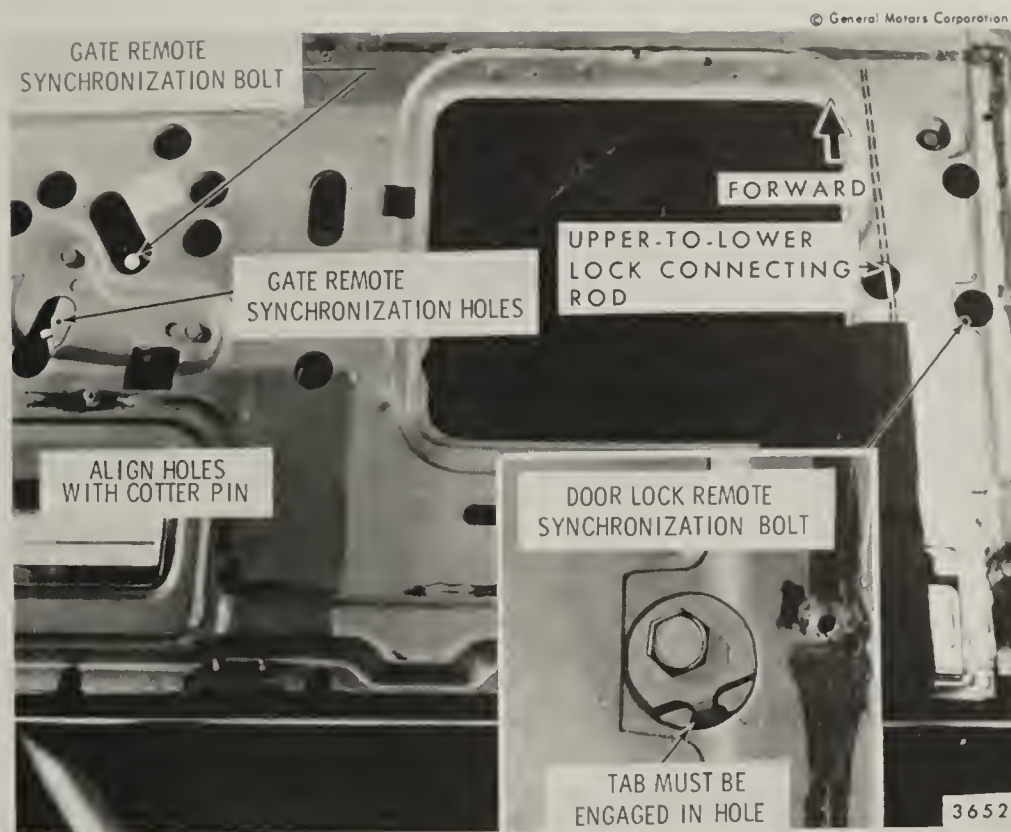

Fig. 21-15. Dual acting tail gate lock synchronization check points. (Fisher Body)
5. With all locks in locked position, visually check gate remote synchronization holes in gate remote control levers (center of gate as shown in Fig. 21-15). If holes line up, proceed with step 7. If the holes do not line up, loosen (turn to right approximately three turns) gate remote control synchronization bolt (this bolt has left hand threads). With synchronization bolt loose, check that there is no bind in remote levers. Align holes by inserting a cotter pin through alignment hole in both levers (Fig. 21-15). Then tighten synchronization bolt to 57-87 in. lb. Remove cotter pin.
6. With all locks in locked position and with the right lower lock securely engaged with the striker, loosen by approximately three turns, the door lock remote synchronization bolt at upper right lock, Fig. 21-15.
through the access hole and hold lower-to-upper lock connecting rod FORWARD Fig. 21-15, while tightening door lock synchronization bolt to 76-116 in. lb. Make sure tab on door lock remote synchronization lever is properly engaged in hole.
Note: The action of loosening the lock synchronization bolt can readily unlock the right lower lock causing the right side of the gate to disengage from the striker. To help prevent this from occurring, reach through access hole and hole the upper-to-lower lock connecting rod, Fig. 21-15, FORWARD while loosening synchronization bolts.